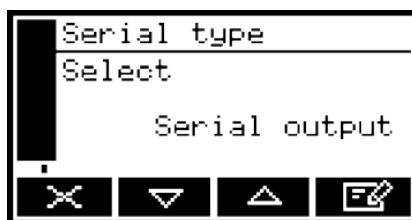

Figure 38 - The Serial type screen
1. With the Menu screen displayed, use the  and  soft keys to highlight the "Set up" menu option, then press the  soft key. The Serial type screen will then be displayed, as shown in Figure 38.